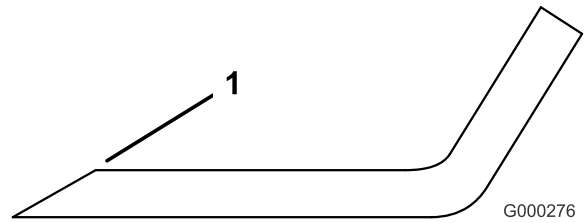

Figure 102
3. Examine the cutting edges of all of the blades. Sharpen the cutting edges if they are dull or nicked. Sharpen only the top of the cutting edge and maintain the original cutting angle to make sure of sharpness (Figure 102). The blade will remain balanced if the same amount of metal is removed from both cutting edges.